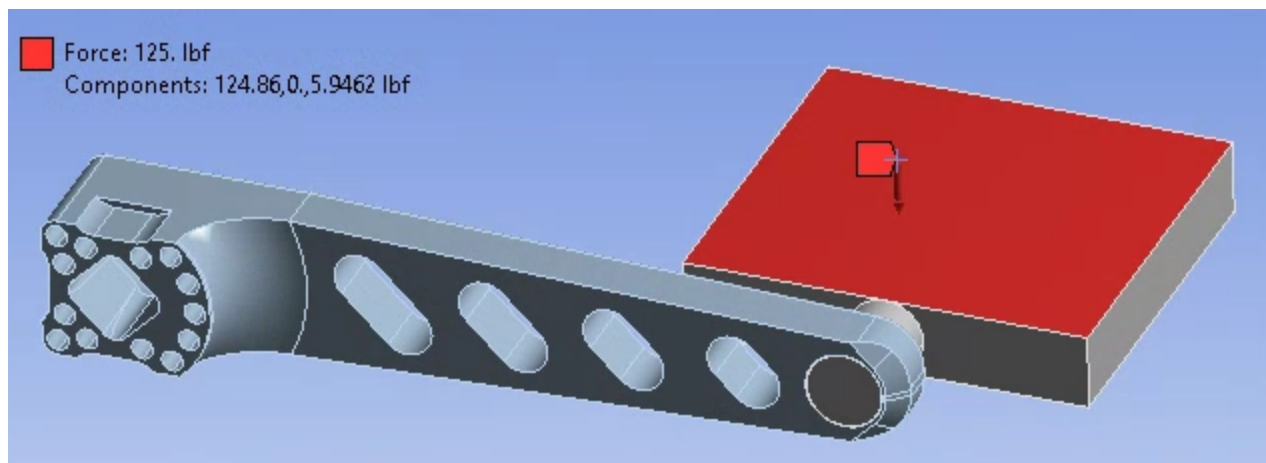

Figure 8: Force location on the pedal
2. The 125 pound force is dispersed on the pedal. It can be seen in the upper left corner of *Figure 8* that this 125 force is broken down into two components, the transferred force to the drivetrain (124.86 lbs) and the wasted force (5.9462 lbs).